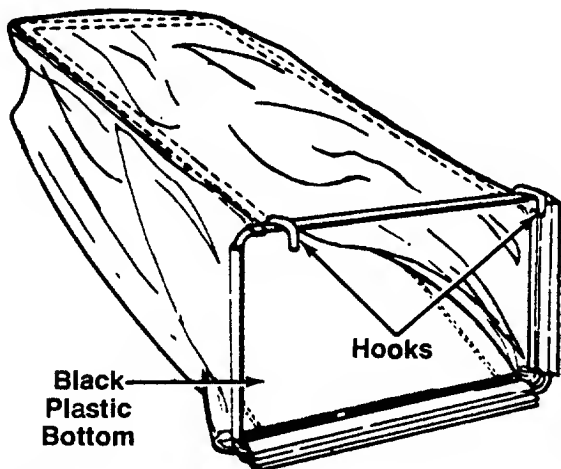

FIGURE 13.
2. Place the frame inside the grass catcher bag. The bottom of the grass bag is black plastic. The hooks on the front frame go toward the top of the bag. See figure 13.